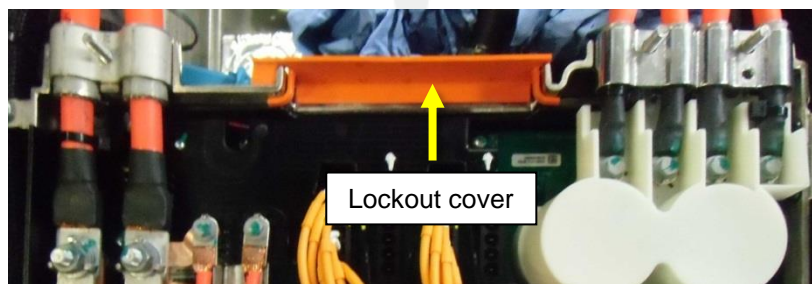

Figure 3
5. Remove the lockout cover from the LH side of the HVJB (Figure 3).